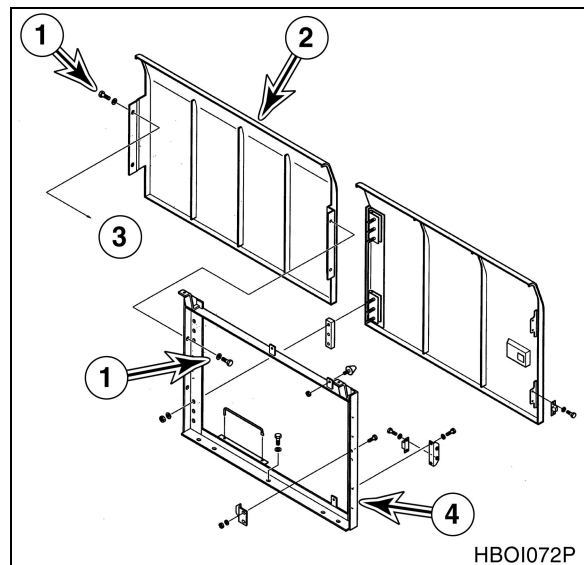

Figure 13
5. Install cover (2, Figure 13) on fuel tank (3) and support (4) with four bolts and washers (1).